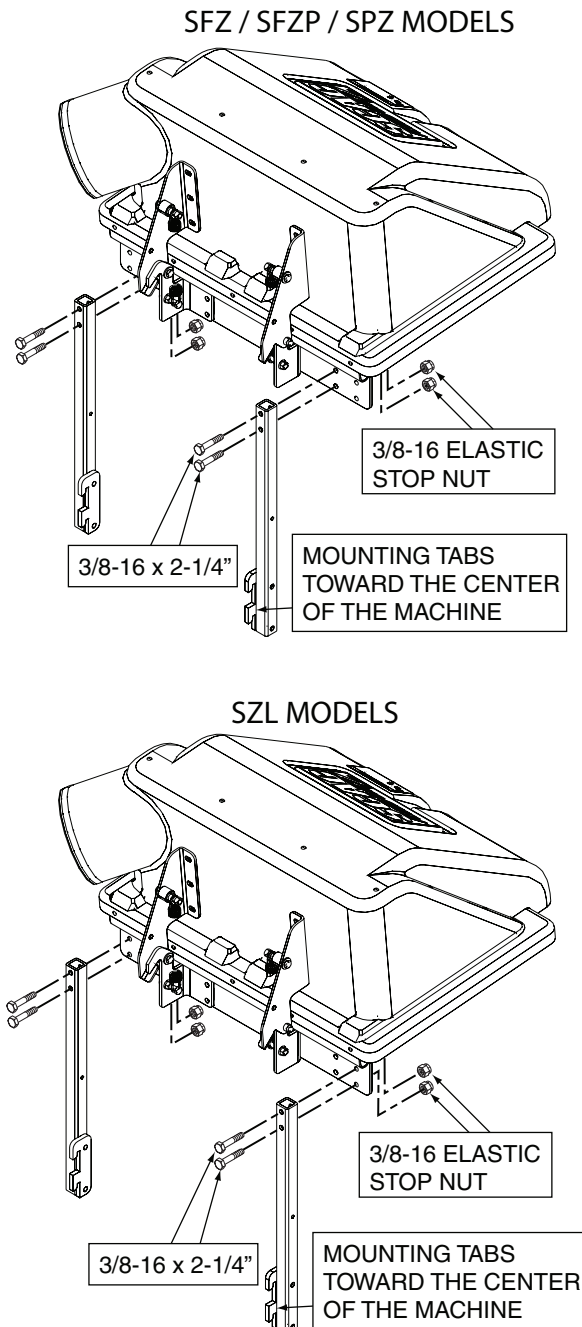

Figure 2-15. Up Tube Installation
4. Install the left and right side upright mounting tubes to the grass catcher hood assembly. Secure using (4) 3/8-16 x 2-1/4" hex head bolts and (4) 3/8-16 elastic stop nuts. See Figure 2-15.